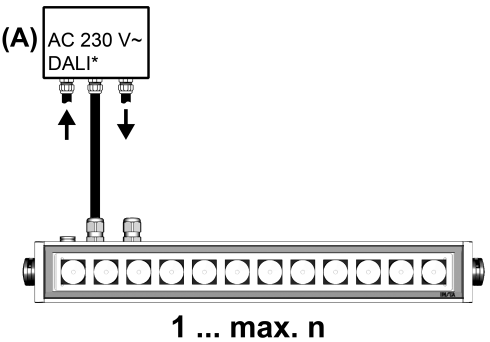

Figure 5: Connection overview (variant 'L')
- The device connections must be provided with an additional cover (A) by the customer in order to meet the requirements for double or reinforced insulation as well as a degree of protection suitable for the installation environment (Figure 5).